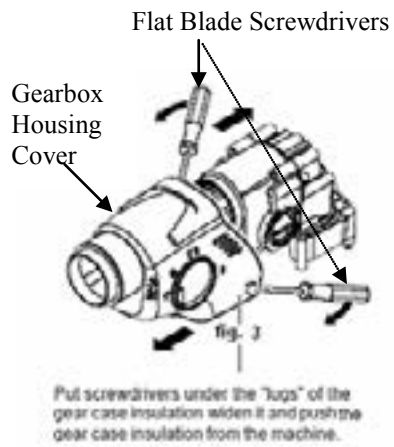

fig. 3
- 19, 33** Release locking tabs on gearbox cover (33) using two flat bladed screwdrivers when removing from gearbox assembly (19). [see fig. 3]